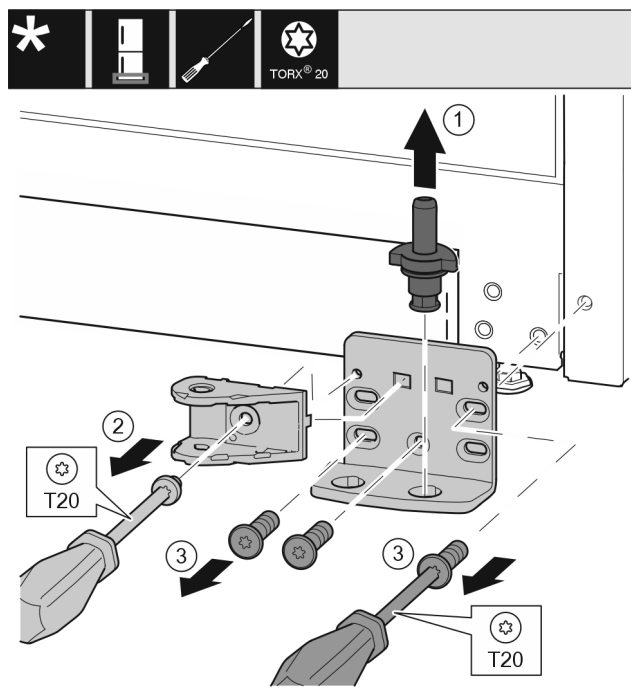

Fig. 30
- Pull the bearing bolt Fig. 30 (1) out upwards completely.
- Use screwdriver to unscrew the screw Fig. 30 (2) and remove the closing damper connection.
- Use screwdriver to unscrew the screws Fig. 30 (3) and remove the swap bearing block.